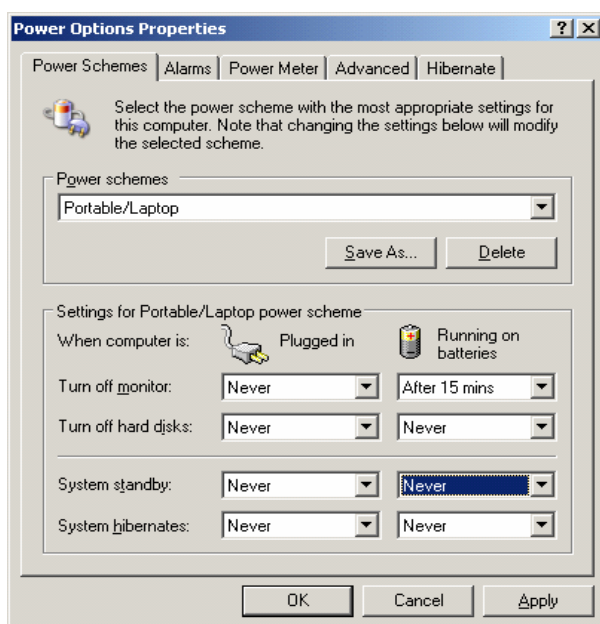

figure 47
2. Click through the tabs *Power Scheme*, *Alarms*, *Advanced* and *Hibernate* and set all settings as shown in the screenshots (figure 47 – 50):